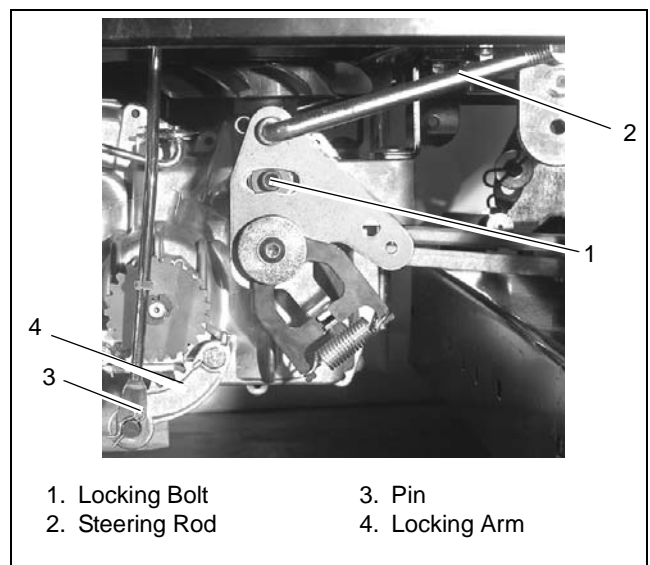

Figure 11
5. Use a hex wrench to loosen the locking bolt (Figure 11) until the linkage can be rotated by hand.